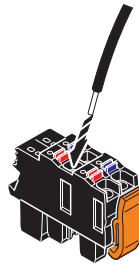
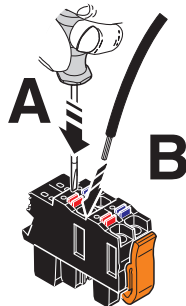

Figure 5-3 Connecting a solid conductor
Figure 5-4 Connecting a stranded conductor
- Open the spring by pressing on the spring lever with a screwdriver (A in Figure 5-4).
- Insert the conductor into the terminal point (B in Figure 5-4).
1. Connect the power supplies to the supply plug as shown in Figure 5-3 and in Figure 5-4. Note the information in Section 3.16.